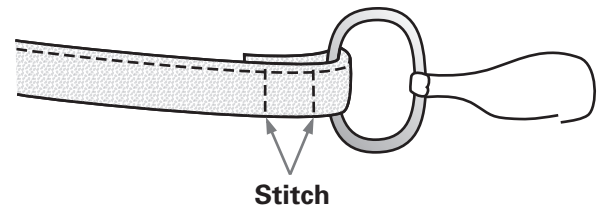

Fig. 5-7
11. To make the strap, apply a strip of basting tape along one long edge on the wrong side of the $\frac{1}{2}$ inch \times 14 inch (1.3 cm \times 35.5 cm) faux suede strap. Remove the paper backing on the adhesive strip and fold the strap in half lengthwise, fastening the edges together. Stitch close to the raw edges and across both ends. Bring the ends of the strap together, matching the long, stitched edges. Wrap them around the ring of the swivel hook and stitch in place. (Fig. 5-7)